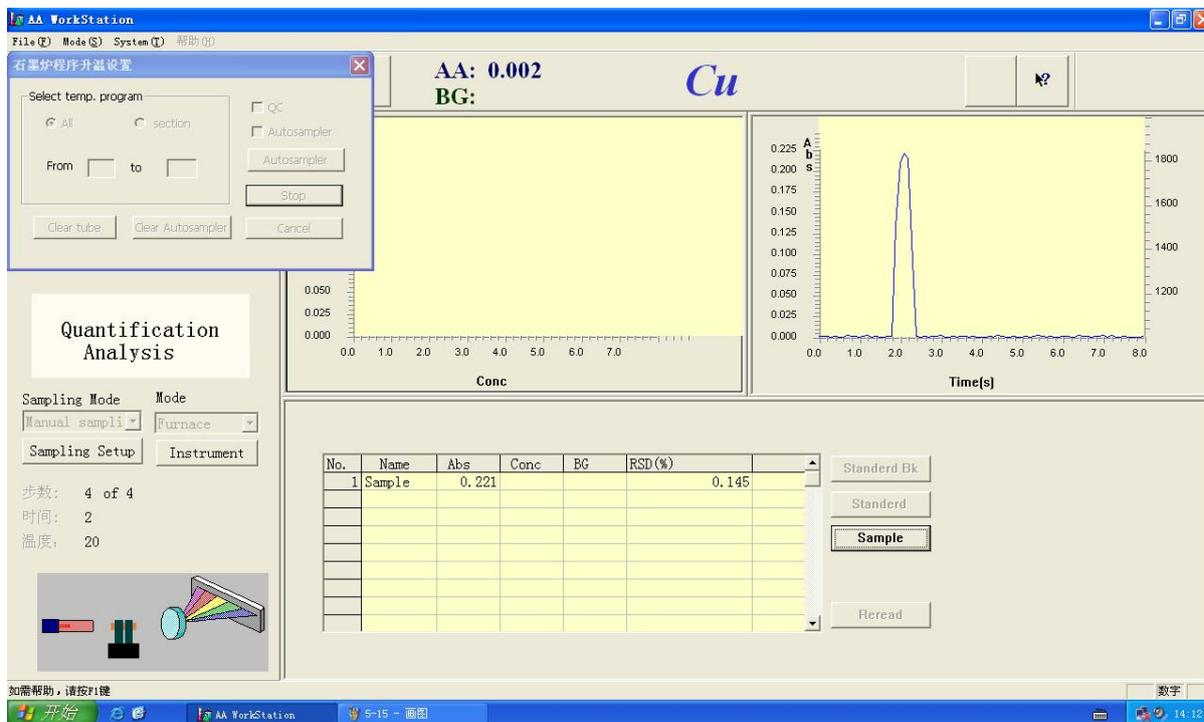

Figure 5-12
16. The heating procedure will be real-time displayed in the lower left of the operating interface. After the heating absorbance value will be displayed (Figure 5-12)